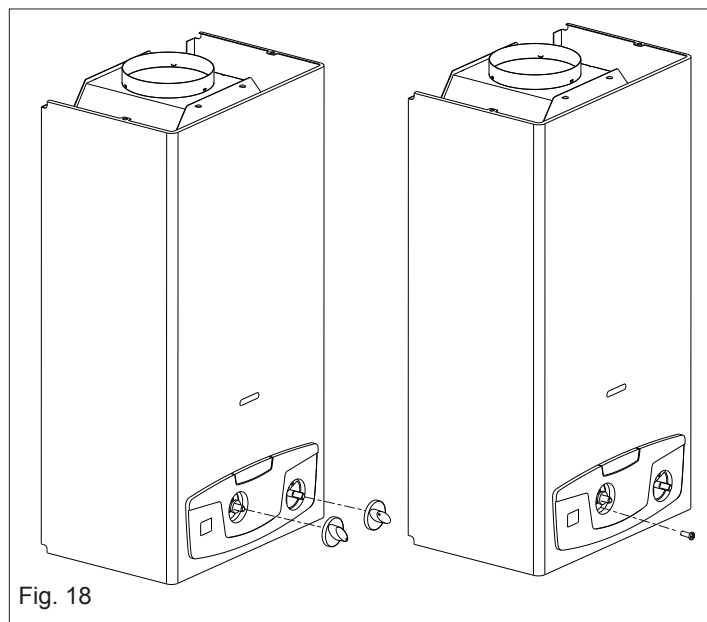

Fig. 18
4.a Removing the casing (Fig. 18)